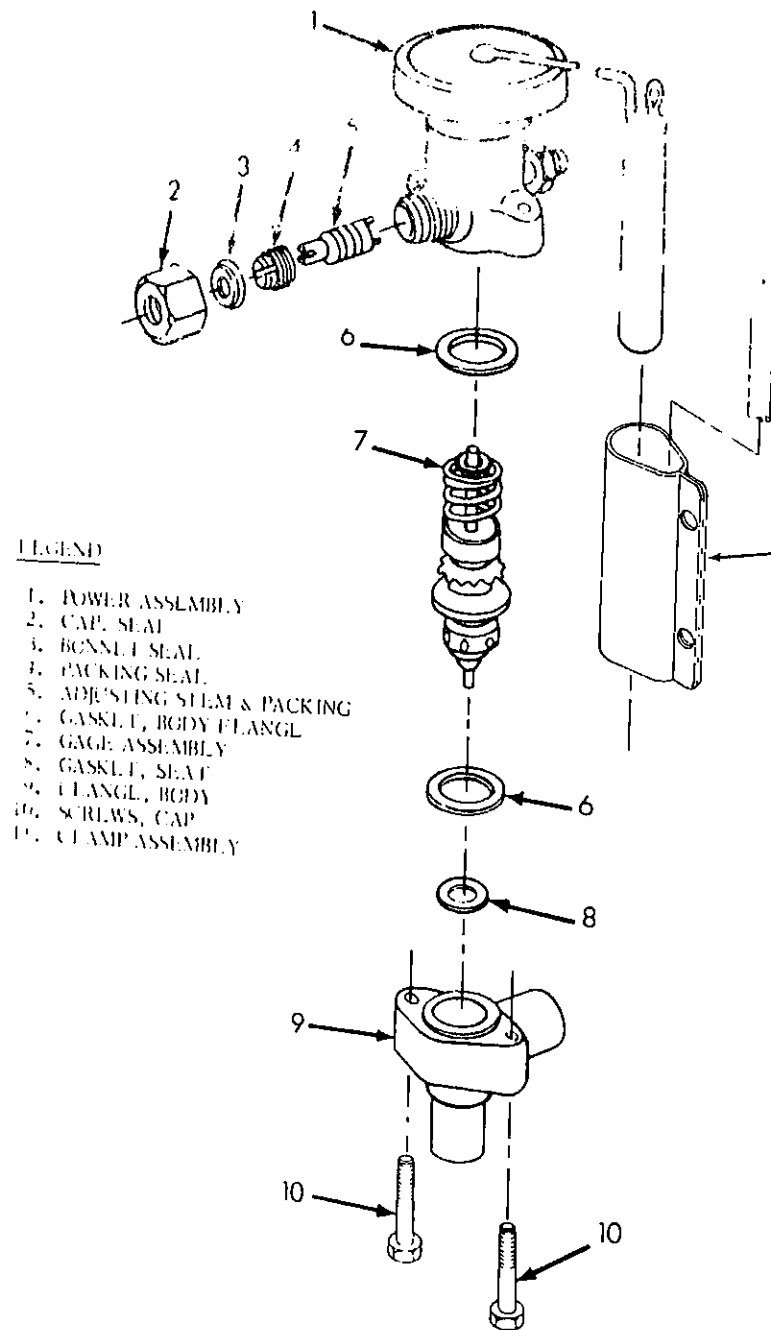

Figure 8-3. Typical Thermal Expansion Valve Assembly
a. Disassemble the valve by removing the capscrews (10) that secure the power assembly to the valve body (9), and separate the two.
d. Install power assembly (1, figure 8-3) on the valve body, being careful to fit lugs on the cage assembly into the cavities in the body (9). Secure with the capscrews (10). Connect equalizer line, if applicable.